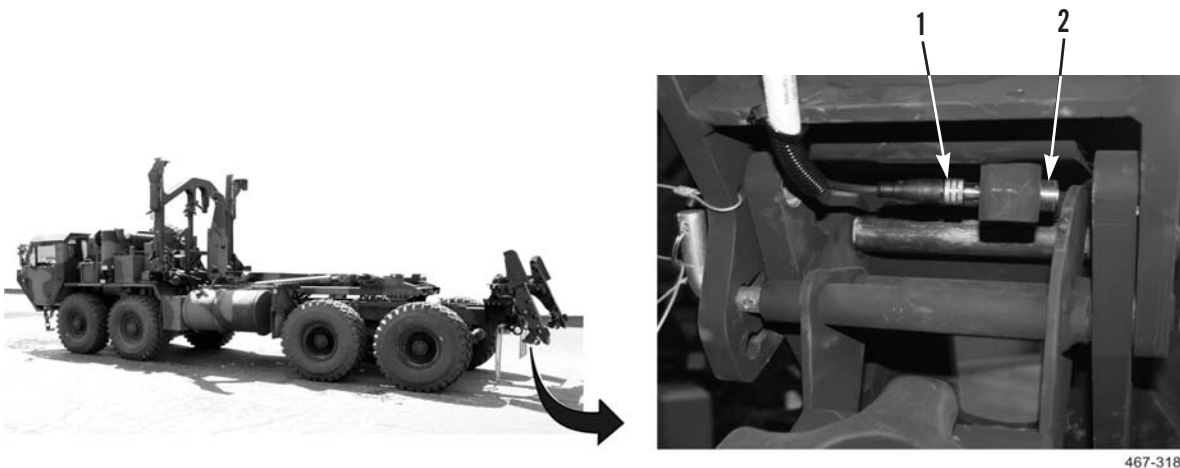

Figure 1. Twistlock Sensor Harness Disconnect.
1. Disconnect twistlock sensor harness (Figure 1, Item 1) from twistlock sensor (Figure 1, Item 2).